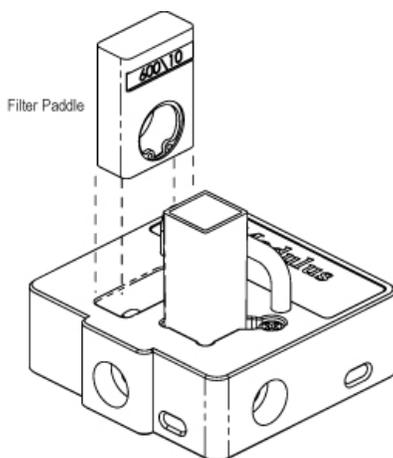

Figure 10
6. Install the filter paddle that corresponds to the wavelength of absorbance for the assay. (See Figure 10.)